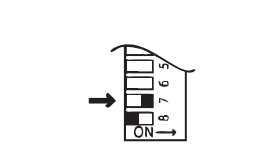

Fig. 3
- Set the unit to "Forced Low" combustion by setting No. 7 switch of the SW1 set to ON (Fig. 3).